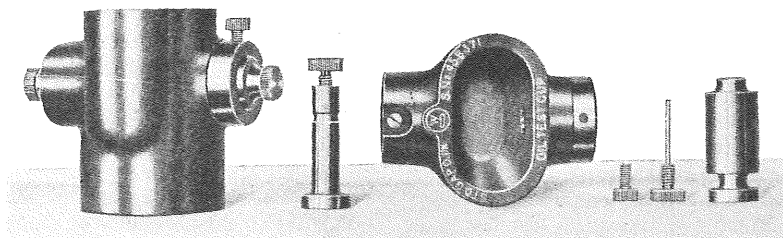
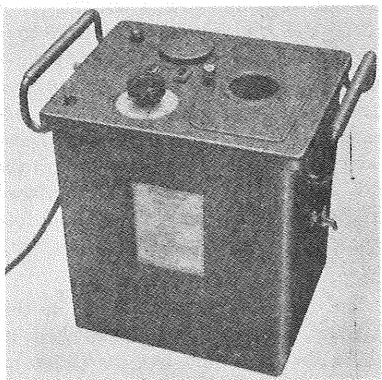

FIG. 5—OIL TEST CUP FOR DIELECTRIC TEST
FIG. 6—PORTABLE OIL TESTING SET
0.100" between their adjacent faces, and with top of electrodes about  $1\frac{1}{4}$ " below the top of the cup. A suitable test cup is shown in Fig. 5 and portable testing outfits in Figs. 6, 7 and 8.